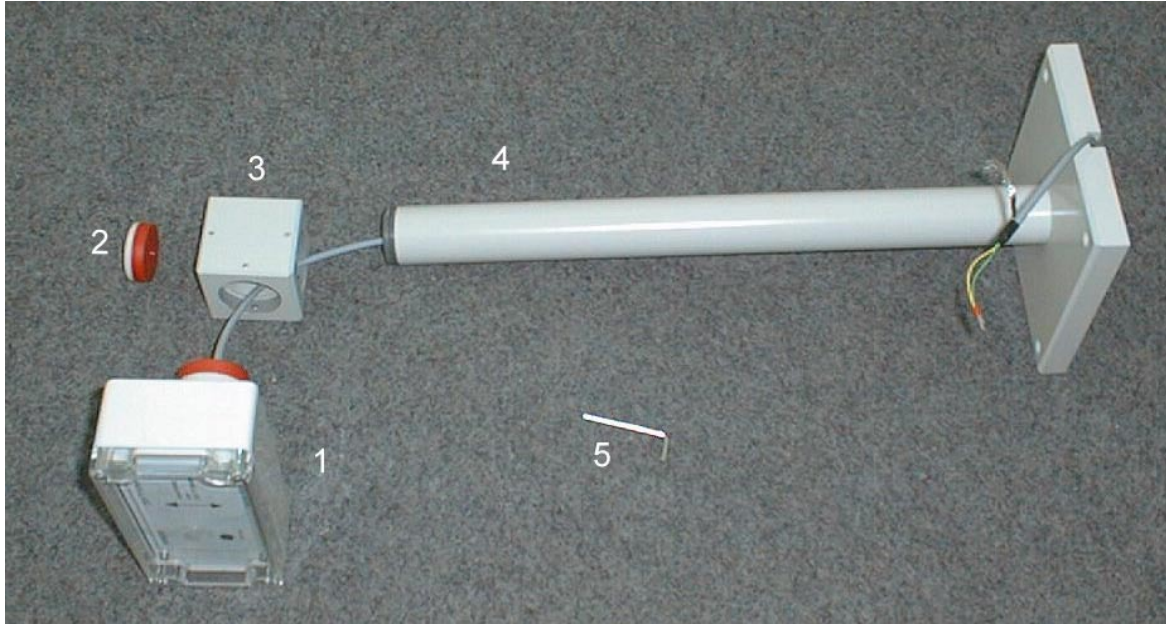

Fig. 2: Angled mounting of the antenna frame.
The figures 2 and 3 show the two possible ways of assembling the antenna frame. It should be noted that the connection cable of the antenna (1) is led through the mounting cube (3) and the foot stand (4) and laid outwards through the groove on the floor plate. Once the location has been tested for reception (reception unit synchronized to the time of day), the fixing bracket is screwed into place through the fixing holes of the floor plate.